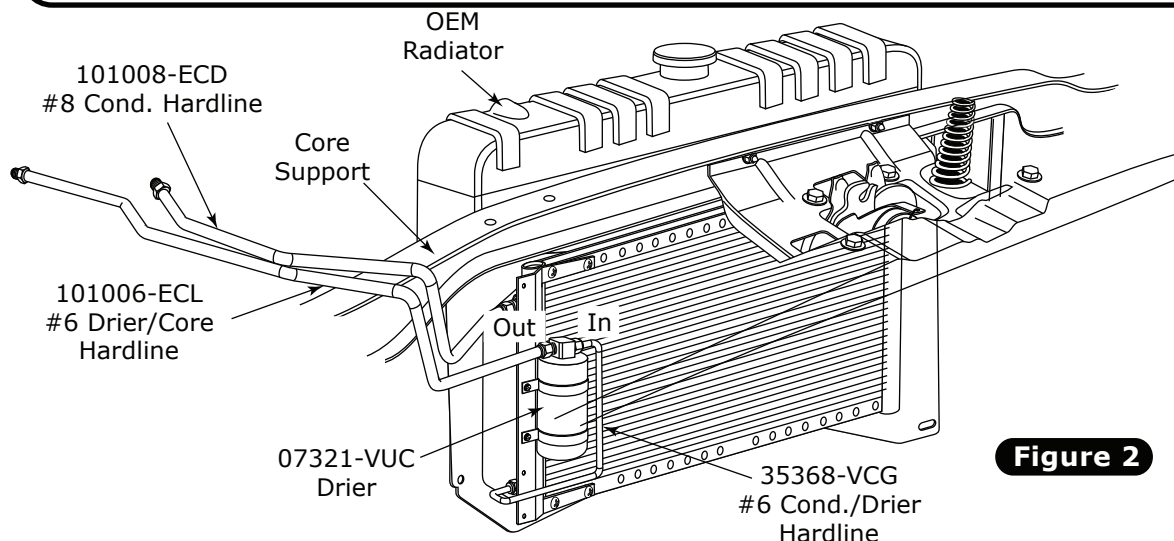

Figure 2
1. Refer to separate instructions included with the condenser kit to install the condenser. Refer to Figure 2, below, for condenser location.